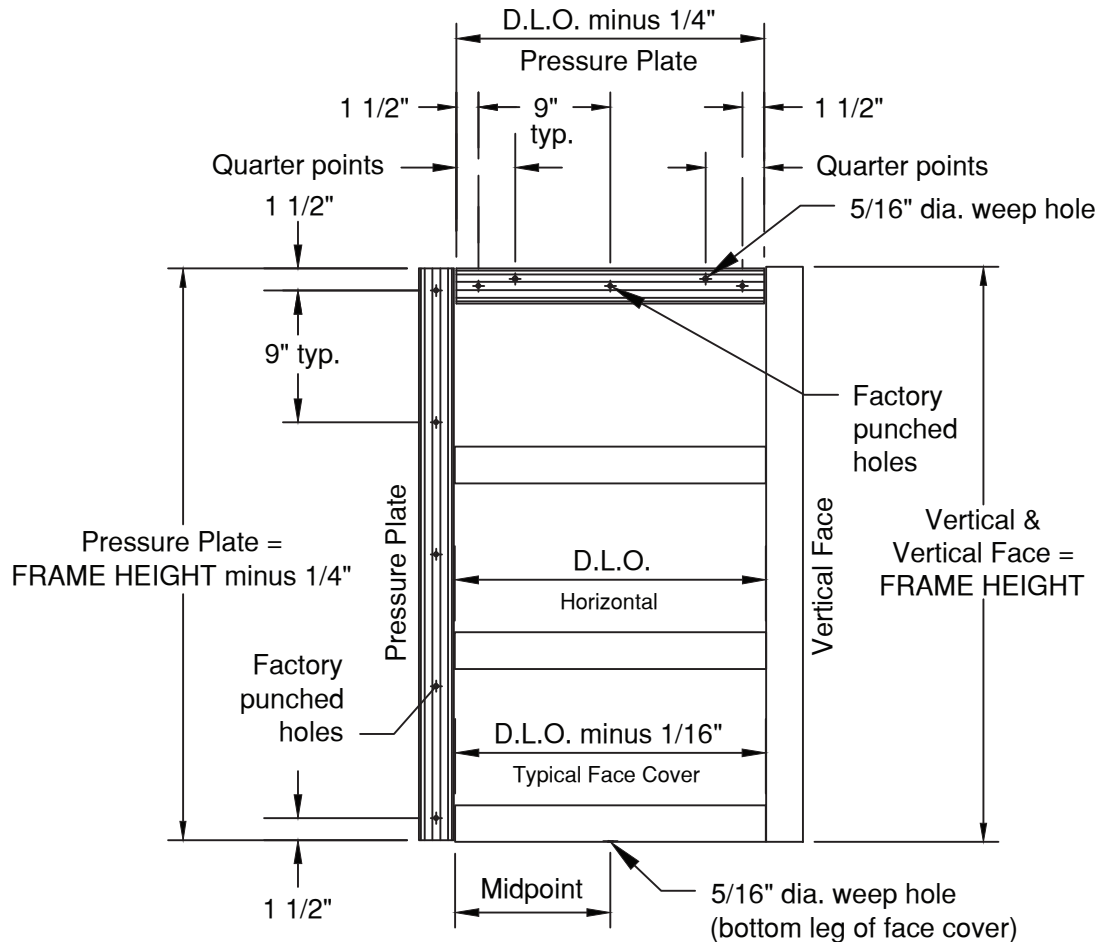

FIGURE 1
- 1.2. Cut material to size. SEE FIGURE 1, page 4 for guide.